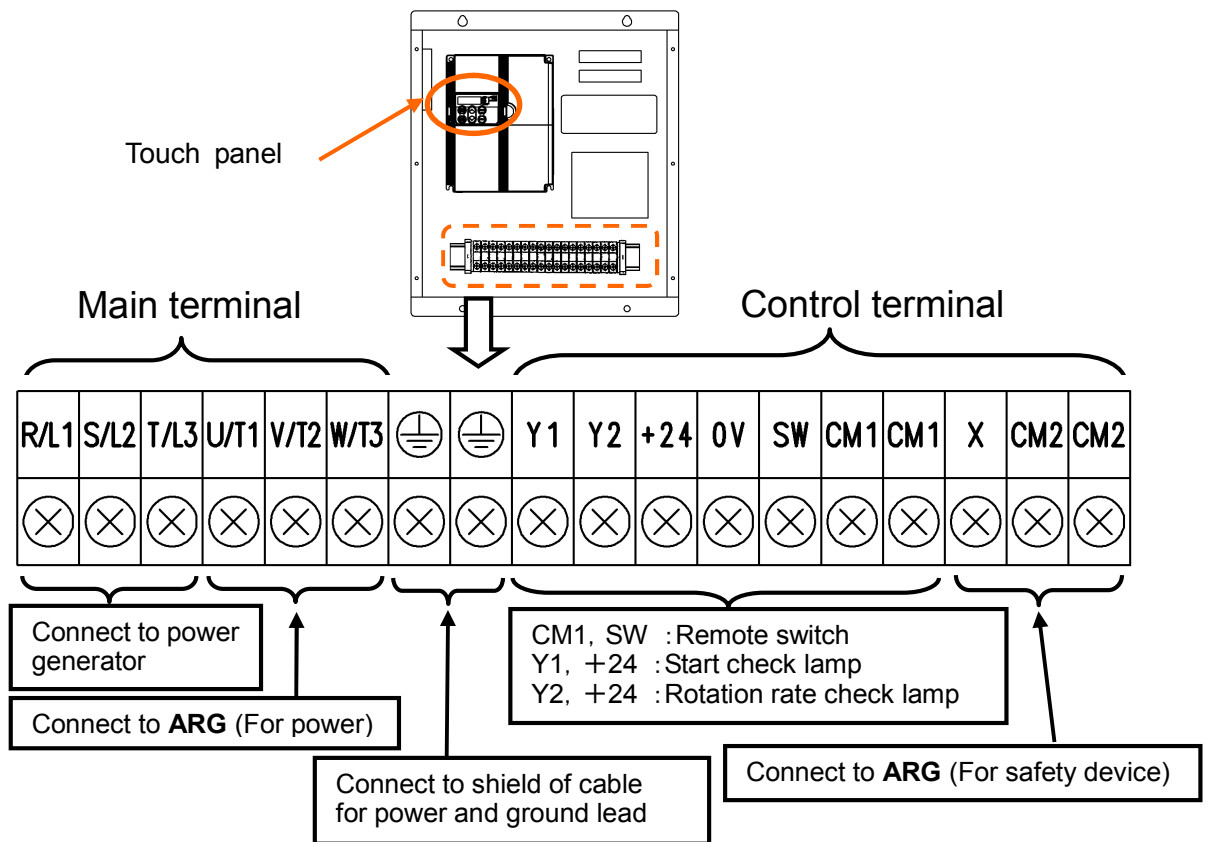

Figure 4-17 Terminal arrangement of the Motor Driver
Please see Figure 4-17 for the location of the connecting terminals.
- ③ After removing the lid, there are terminal board with a safety cover as shown in Figure 4-17